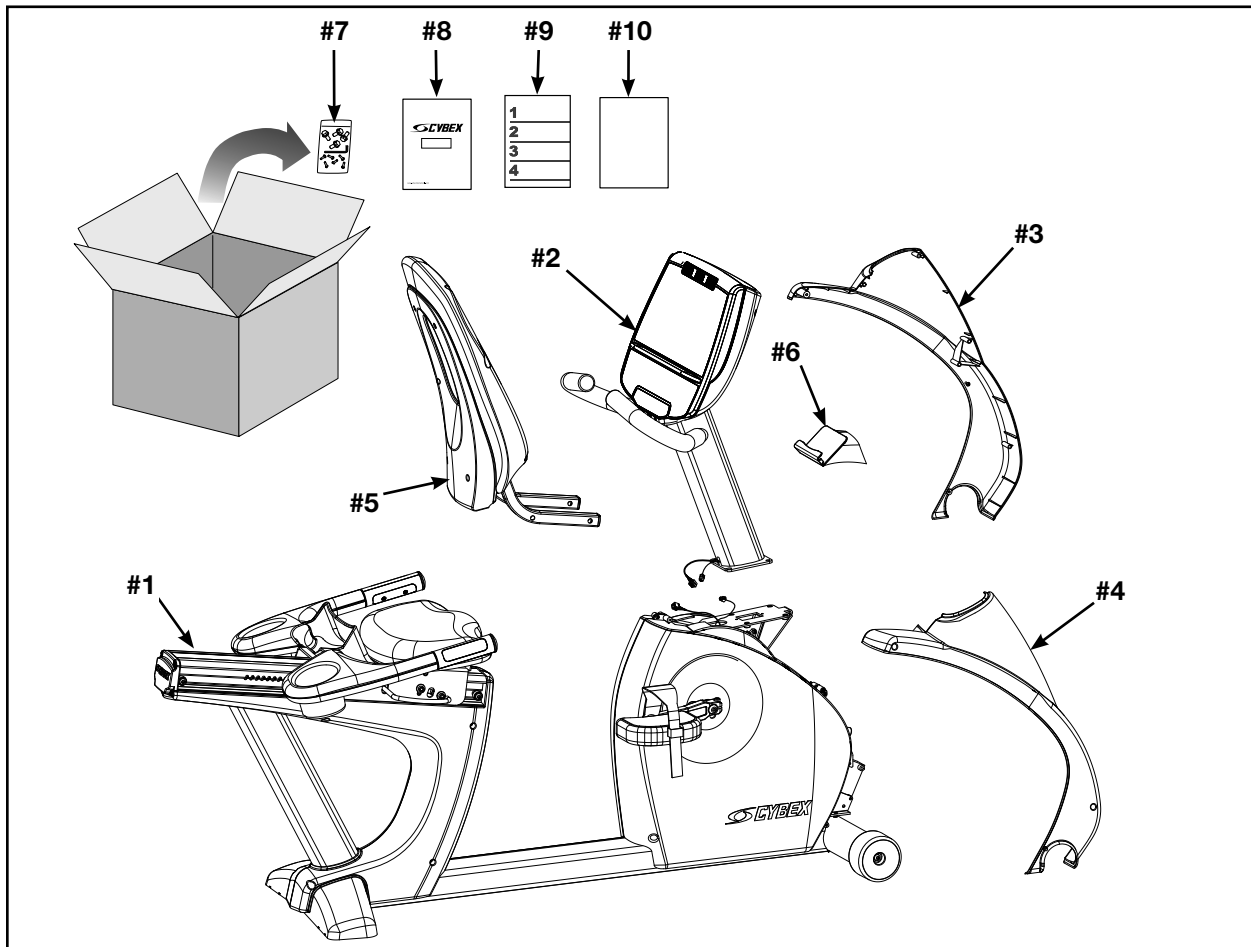

Figure 1a
A. Verify the following items are present. See Figure 1a and 1b. Check off each item as found. See **Chapter 5 - Customer Service** for contact information if any parts are missing.